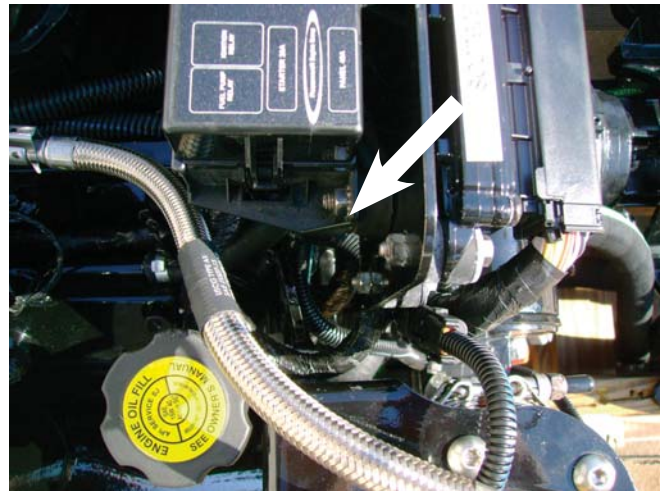

Figure 1 - Remove Fuse Block
1. Remove the two nuts (Figure 1) securing the Fuse Block to the bracket.